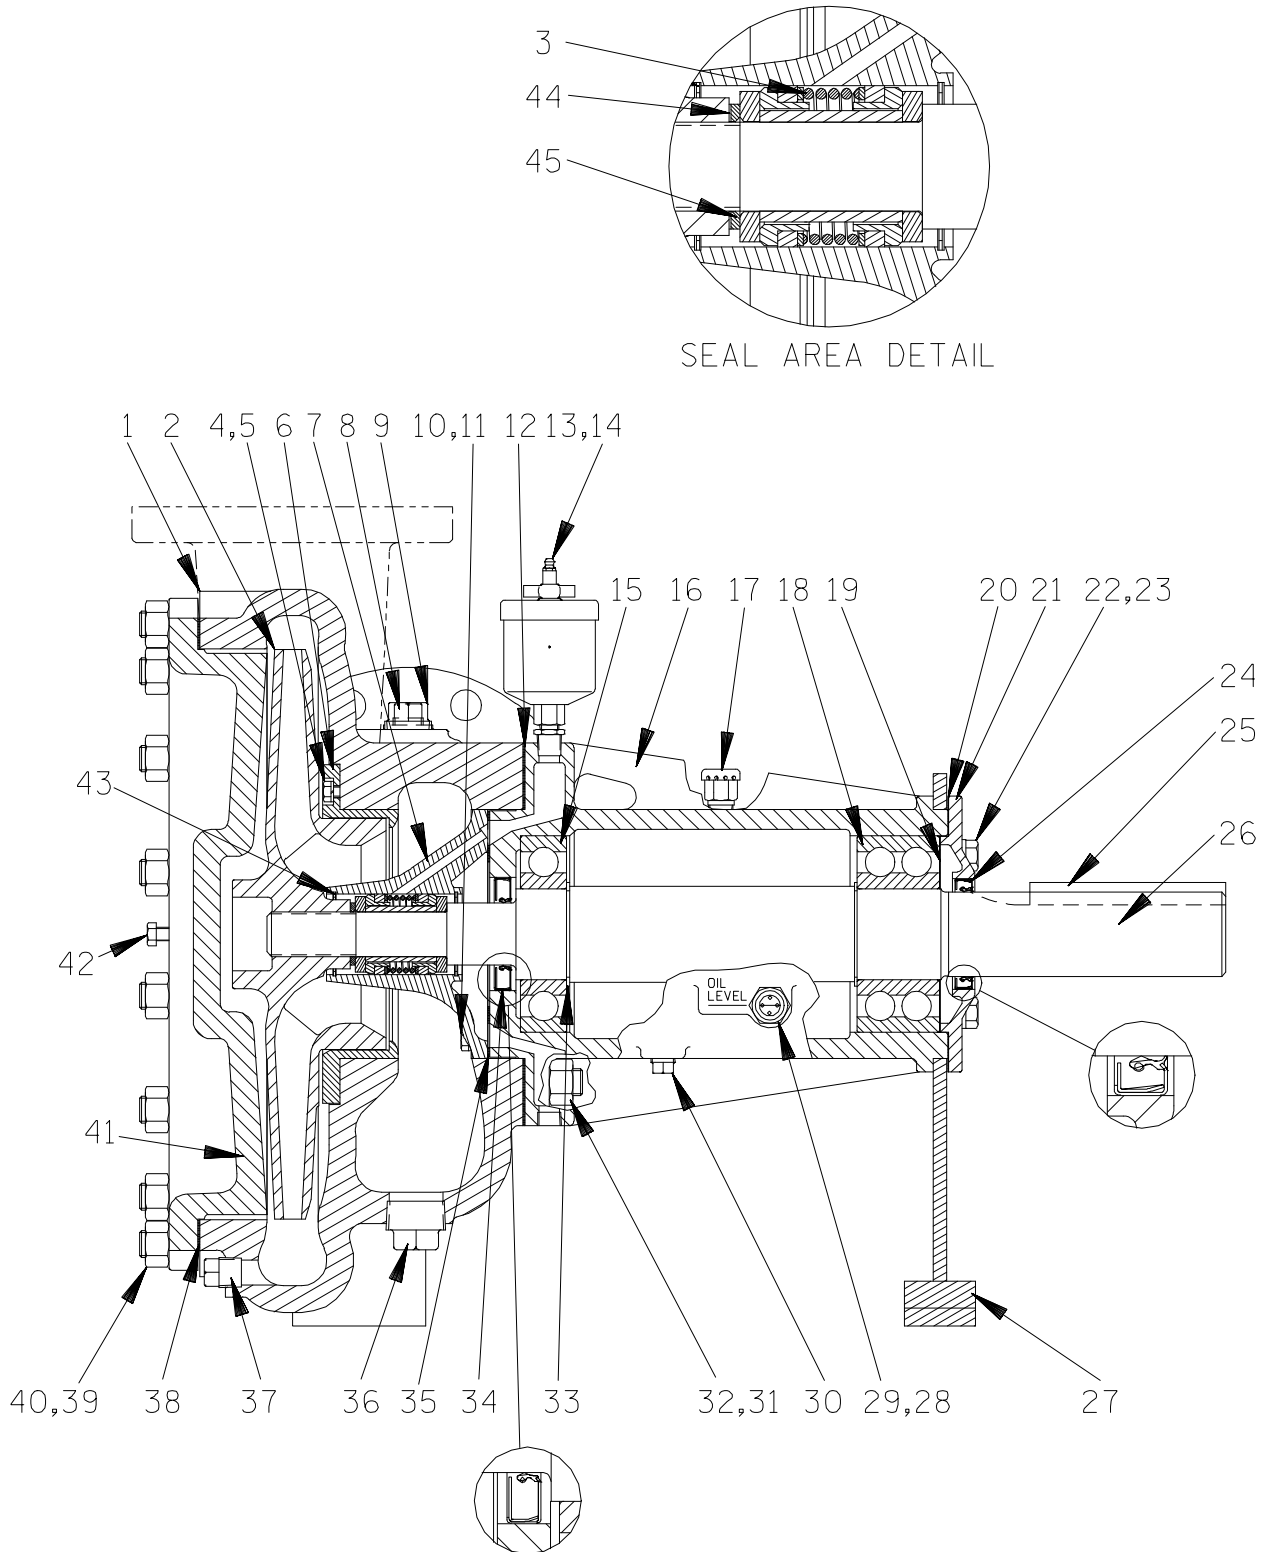

Figure 1. Pump Model 54J2-B
This pump requires little service due to its rugged, minimum-maintenance design. However, if it becomes necessary to inspect or replace the wearing parts, follow these instructions which are keyed to the sectional view (see Figure 1) and the accompanying parts list.
(Figures 1 and 4)
Position the inboard oil seal (34) in the pedestal bore with the lip positioned as shown in Figure 1.